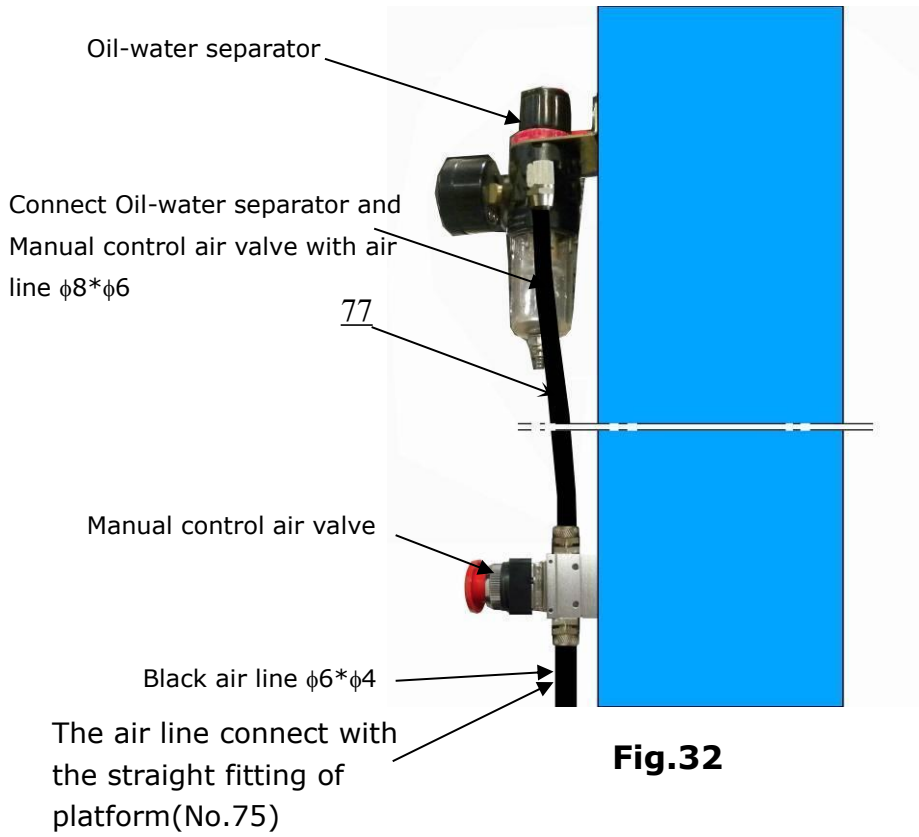

Fig.32
Note: the actual length of $\phi 6 * \phi 4$ air line can be cut by installer. (See Fig. 31, Fig. 32).
4. Connecting Oil-water separator and manual control air valve with $\phi 8 \times \phi 6$ air line(No.77)(See Fig. 32) .